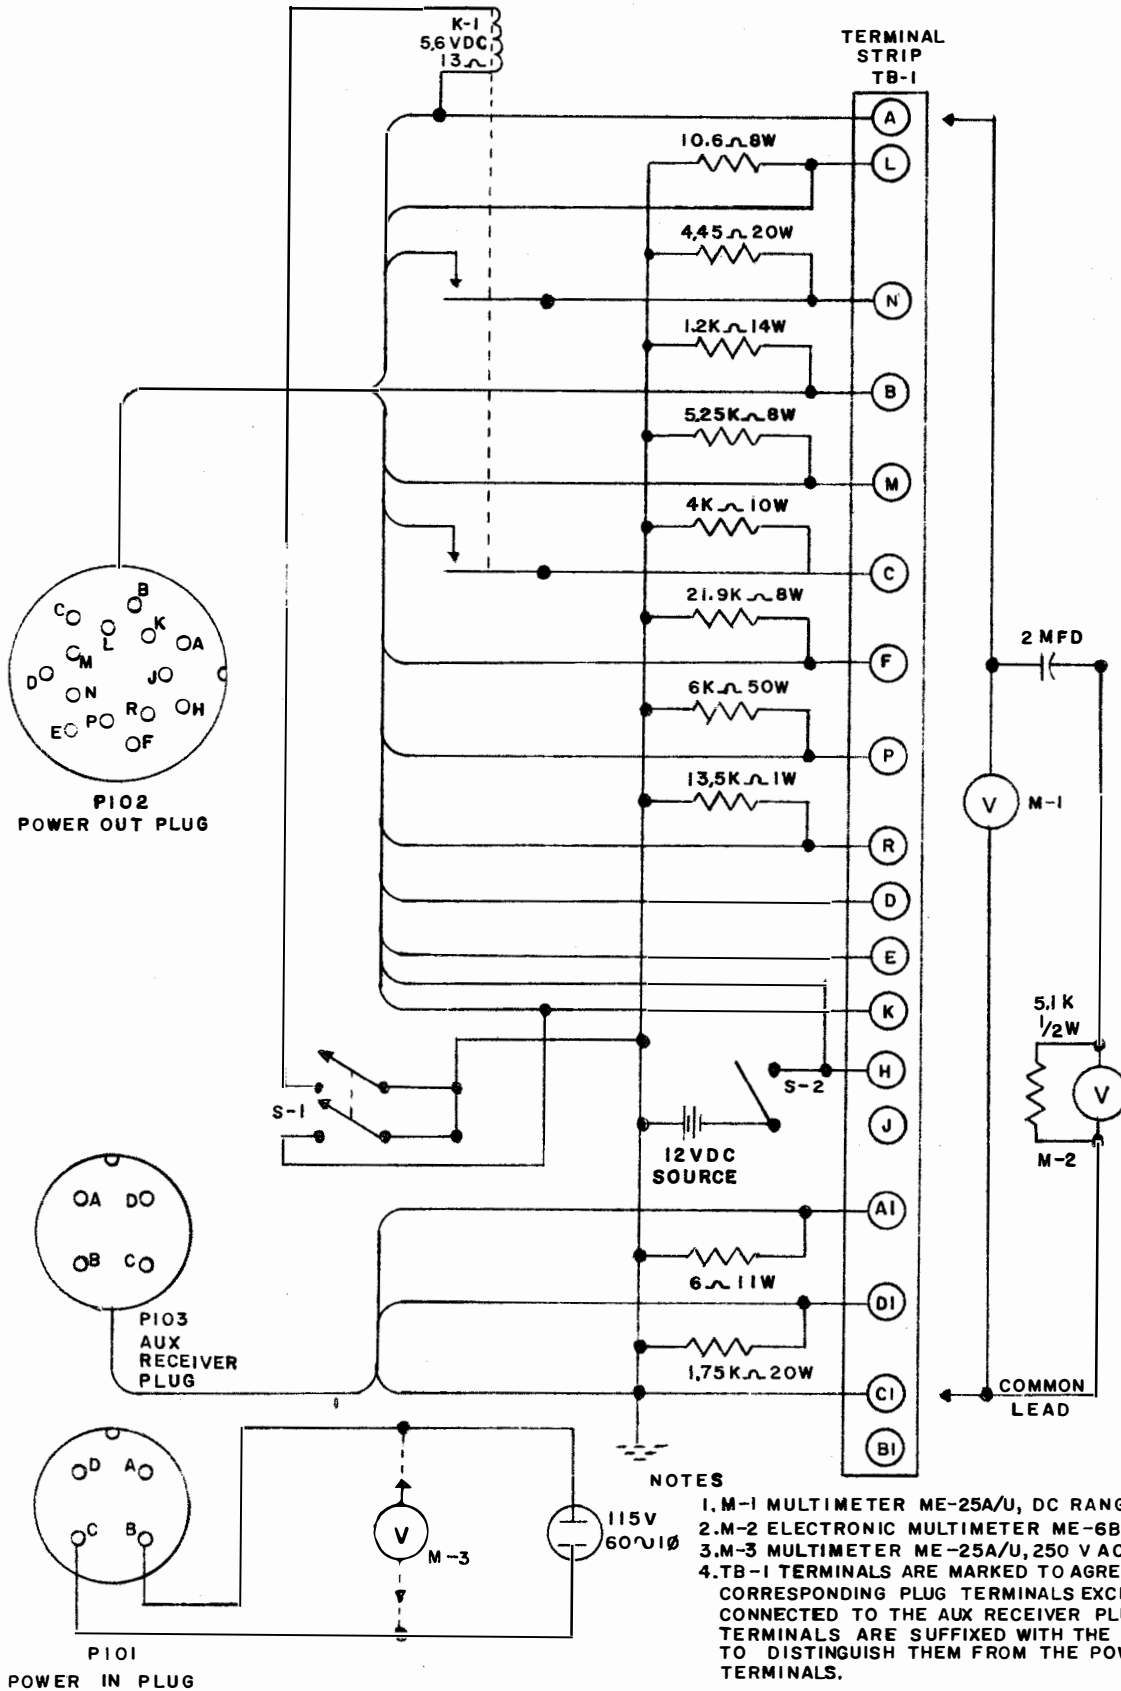

Figure 4-1. Performance Test Set Up
- h. Ten Dummy Load Resistors, wirewound, $\pm 5\%$ tolerance. For values see figure 4-1.
(1) Replace all parts removed for the previous checks (see Section 5, paragraph 5-3d).
(2) Refer to the operational test set up figure 4-1 and connect the dummy load resistors, test equipment and other accessories to the power supply receptacles as shown.
(3) Set the power supply OPERATE switch to RECEIVE position and TRANS POWER switch to LOW position. Place S-1 in OFF position.
(4) Check terminal output and ripple voltages against table 4-1. If abnormal indications are